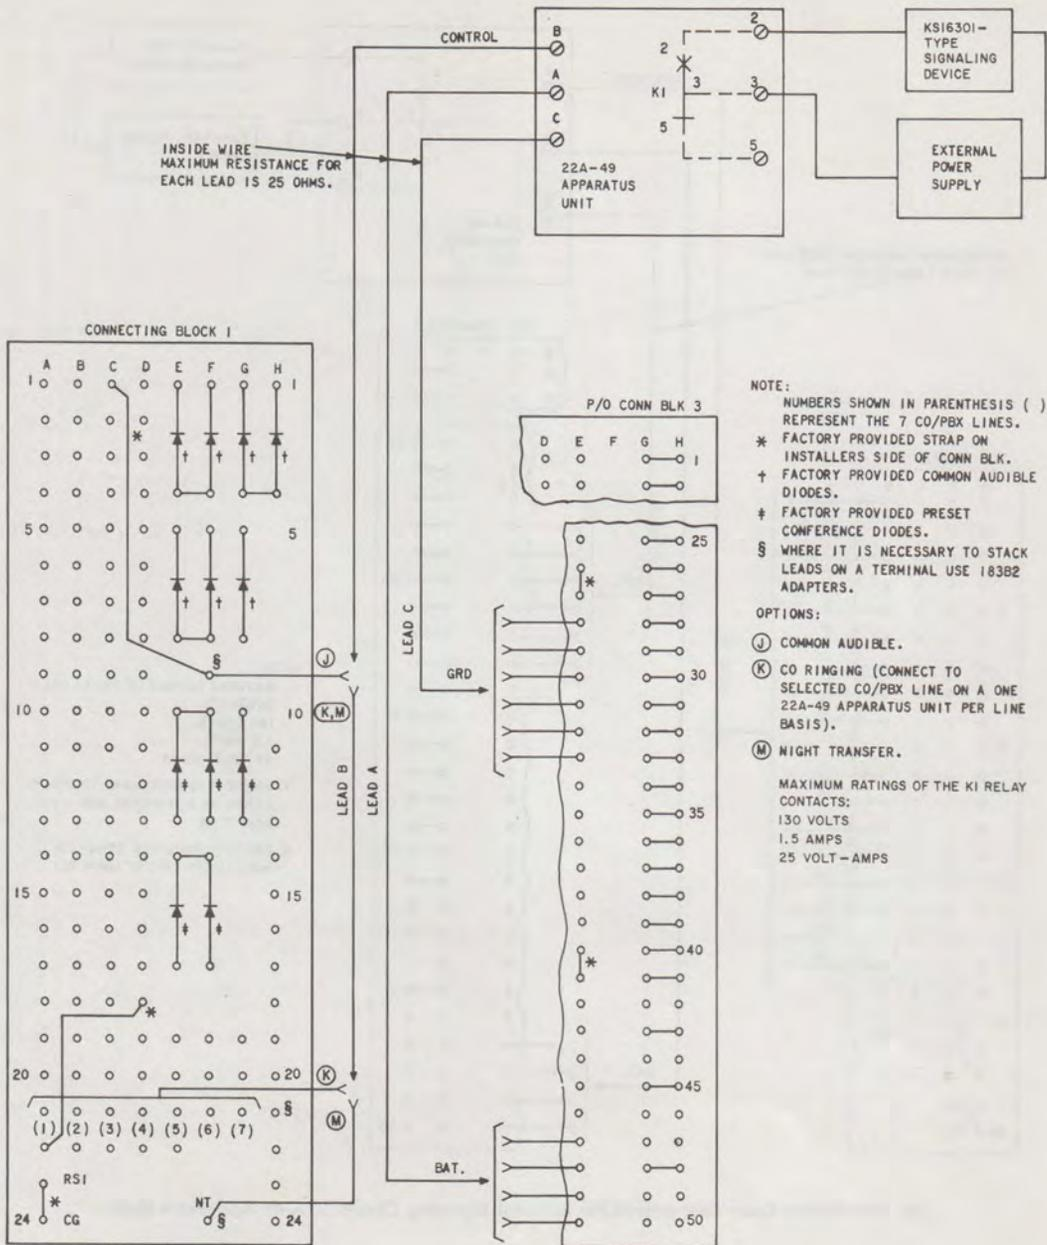

Fig. 30—Common Audible, CO/PBX Ringing or Night Transfer Connections For External Signaling Circuit (22A-49 Apparatus Unit)
- Common audible (See Fig. 30)
- CO/PBX ringing (See Fig. 30)
- Night transfer (See Fig. 30).